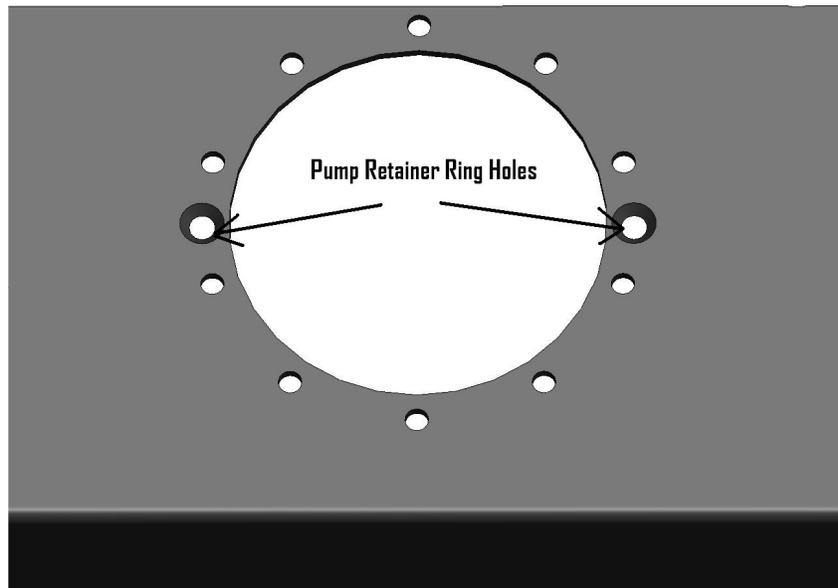

FIGURE 1-1
2. Use a 3.5" hole saw to cut out the pump hole. Lower the pump into the hole and use a transfer punch to locate the 10 mounting holes. Remove the pump and drill the holes using a .225" drill bit. Drill two more holes for the pump retainer ring 180 degrees apart. Refer to figure 1-1 for these two holes.
3. Now take an 82 degree chamfer tool and chamfer the two holes for the pump retainer ring. Once finished it will look like **figure 1-1**.